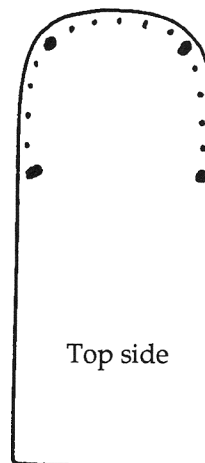

Figure 4
7. Refer to Fig. 4 and insert the thirteen 2 1/4" wires into the holes that go all the way through the wood, having 1/2" of the wire extending below the seat (Fig. 5). Use a toothpick to apply a bit of c/a glue at the point where each of these wires meet the wood on the underside of the seat. Glue the four 1 3/4" wires into the top remaining holes.